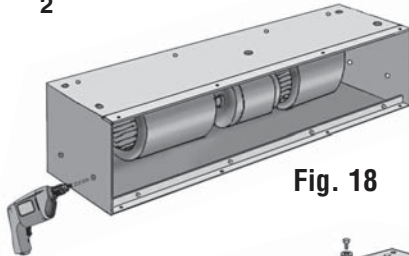

Fig. 18
3. Drill all four (4) holes using a $\frac{3}{8}$ " drill bit. (See Fig. 18)